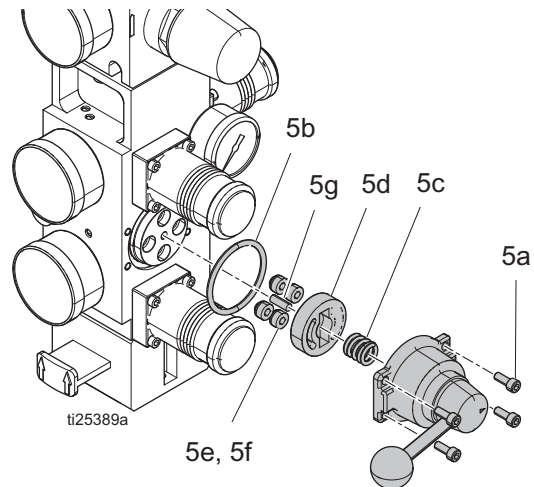

FIG. 2: Director Valve Replacement
2. Remove screws (5a) as shown in Figure 2 and take off the director valve.